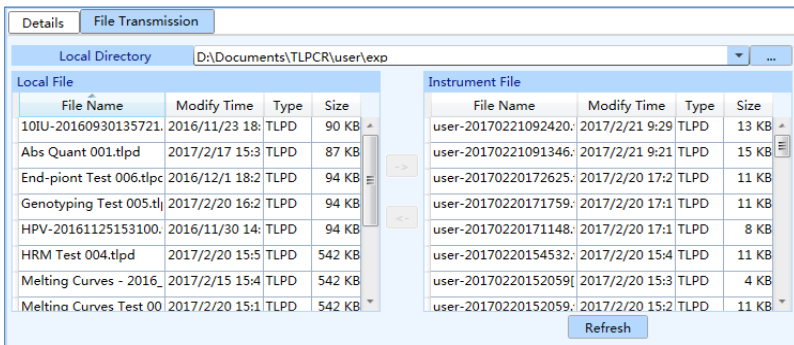

Figure E-3.2d Instrument Management Interface - File Transmission Tab
- **File Transmission** tab: It transmits files between the main control computer and the connected instrument, as shown in figure E-3.2d.